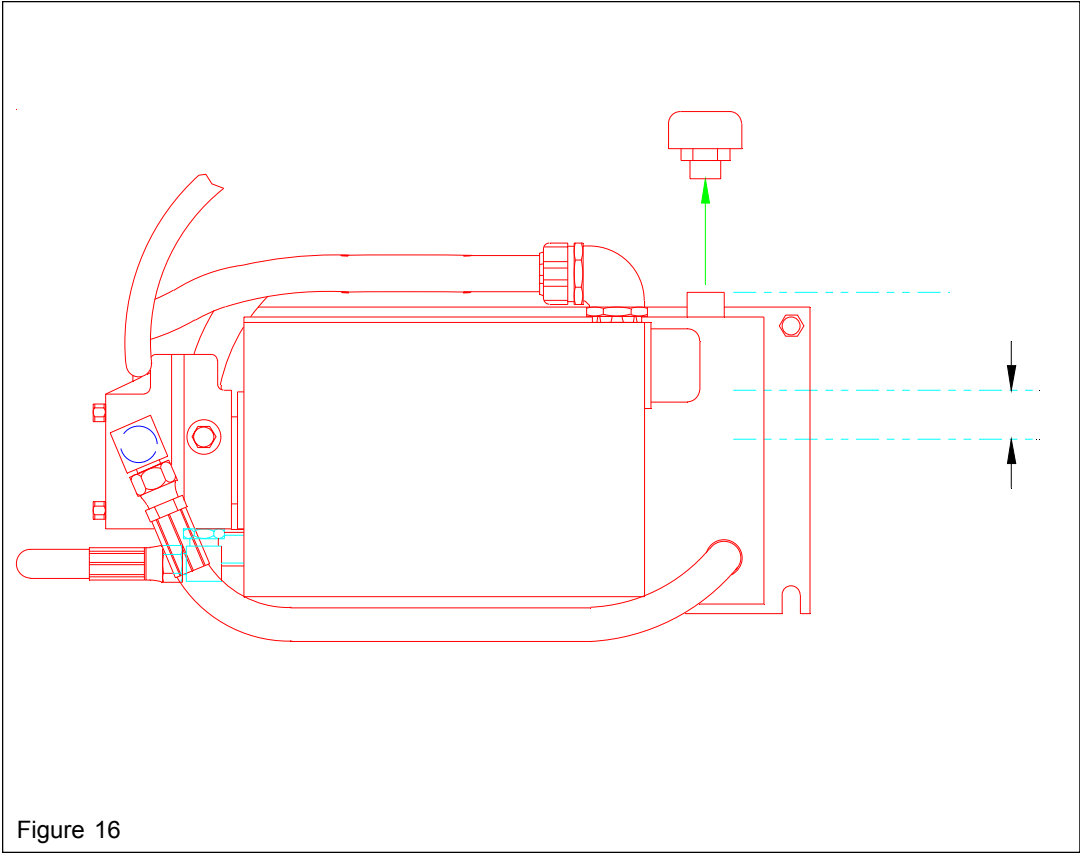

Figure 16
2. Check hydraulic fluid level at breather cap atop reservoir. If oil level is more than 1" below full level, add appropriate hydraulic fluid, see recommended hydraulic fluids (See Fig. 16).